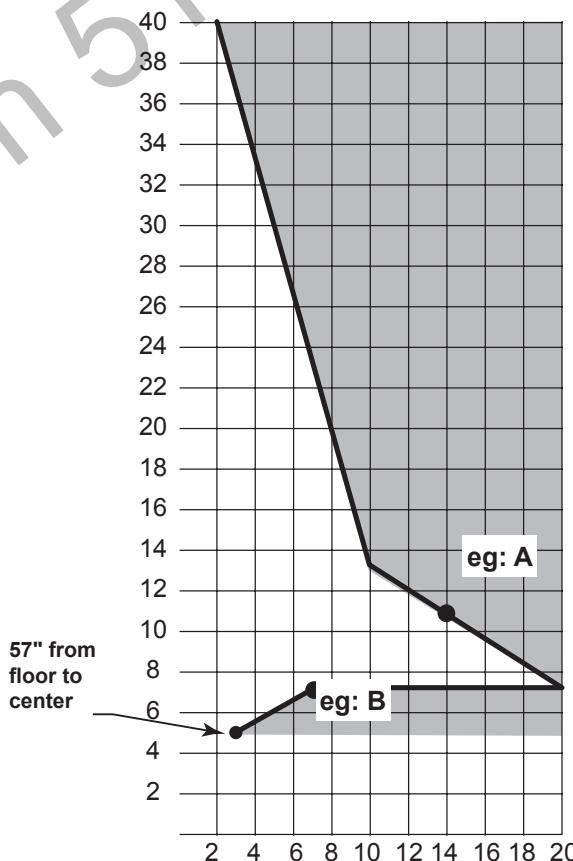

Figure 10 -
1. Determine the height of the center of the horizontal vent pipe exiting through the outer wall. Using this dimension on the Sidewall Vent Graph, *Figure 10*, locate the point intersecting with the slanted graph line.